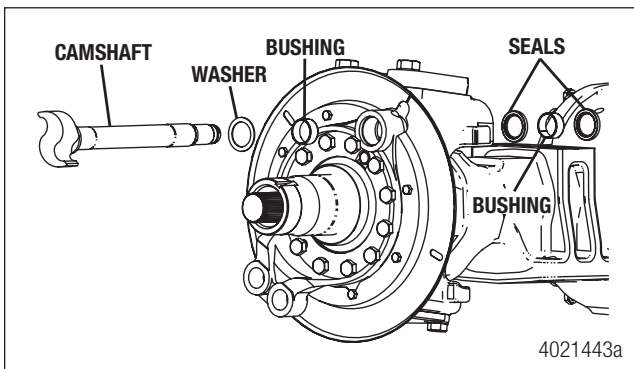

Figure 7.20
8. Install the brake camshaft, washer, seals and bushings. Figure 7.20.